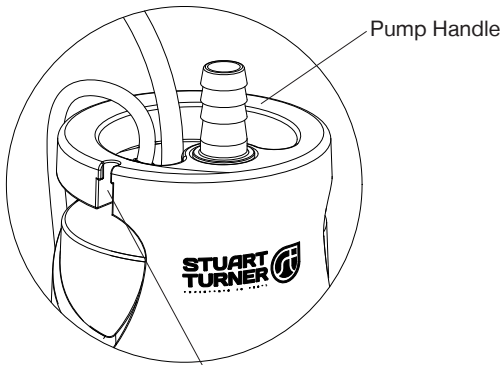

Fig. 3 Moulded cable retention slot
2.21 Adjustment of the float switch is achieved by lengthening or shortening the cable through the moulded cable retention slot, which is located in the pump handle (Figs 3 and 4).